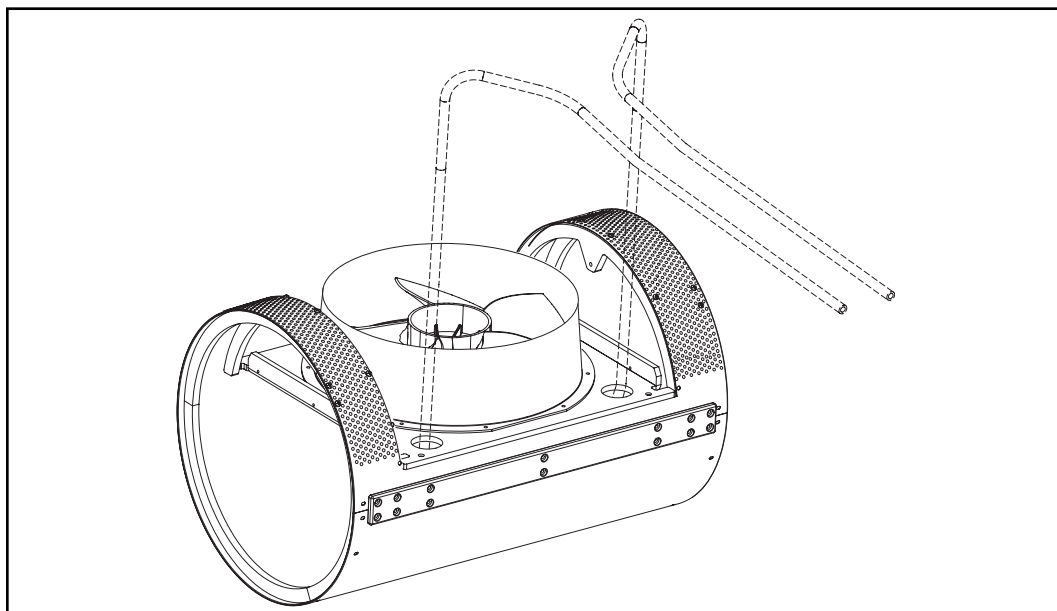

Fig. 6.2
- 6.3 Uncoil the two lengths of hydraulic hose that are attached to the cylindrical base (Fig 6.2).